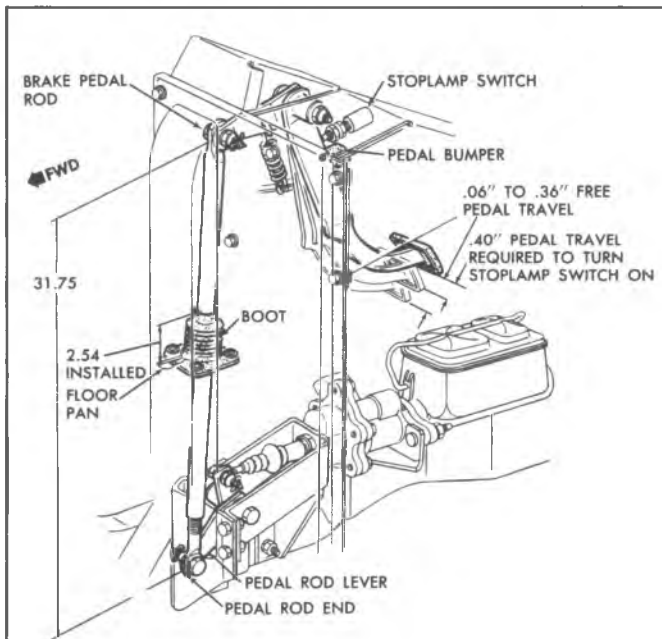

Fig. 94--Brake Pedal and Stop Lamp Adjustment--P30(32) Model
**NOTE:** Pre-assembled brake pedal rod assembly should be adjusted to dimension shown in Figure 94.
2. Adjust free pedal travel by turning the brake pedal rod end. Free pedal travel should be .06" to .36" (fig. 94).
#### Replacement (Fig. 94)
11. Fasten the boot to the floorpan and compress the boot to 2.54" installed height; tighten the boot screws to 13-18 in. lbs. Refer to Figure 94.